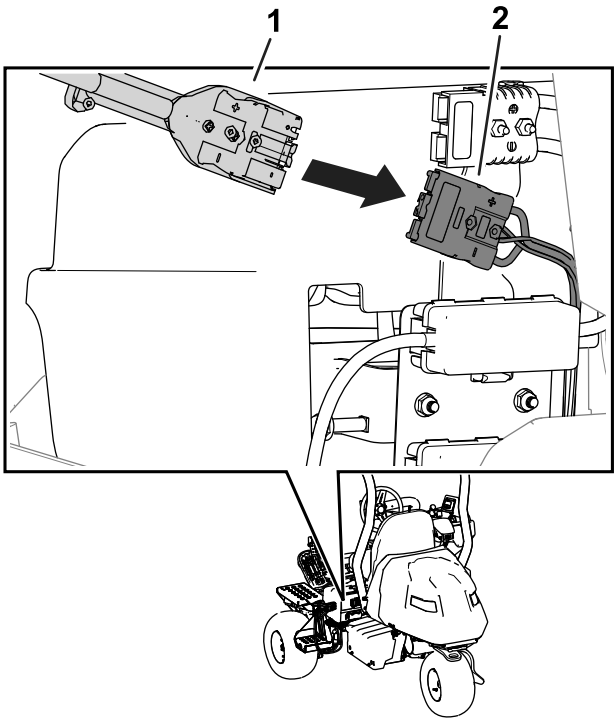

Figure 33
7. Slide the charger-output connector into the charger connector on the machine (Figure 33).